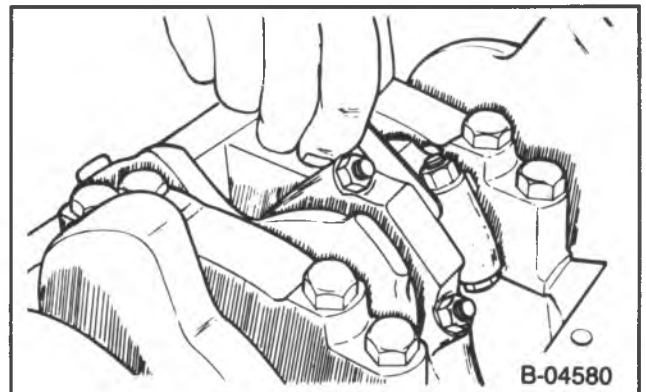

Figure 31 — Measuring Connecting Rod Side Clearance
- Connecting rod side clearance. Use a feeler gage between the connecting rod and crankshaft (figure 31). The correct clearance is 0.013-0.023-inch (0.33-0.58 mm).